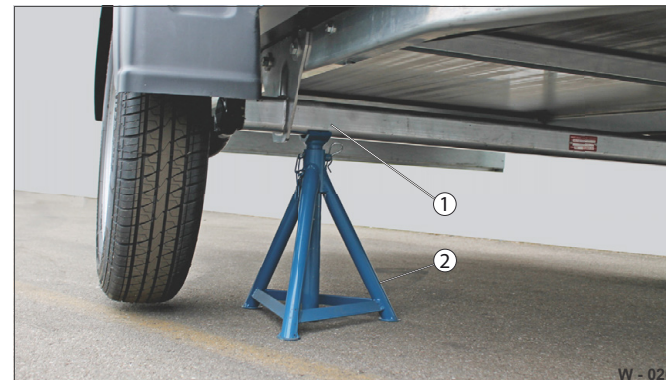

Fig. 29 Jack up / support the trailer
- Jack up the trailer for example with a car jack (Fig. 29 /2) in the wheel area on the axle tube (Fig. 29 /1).